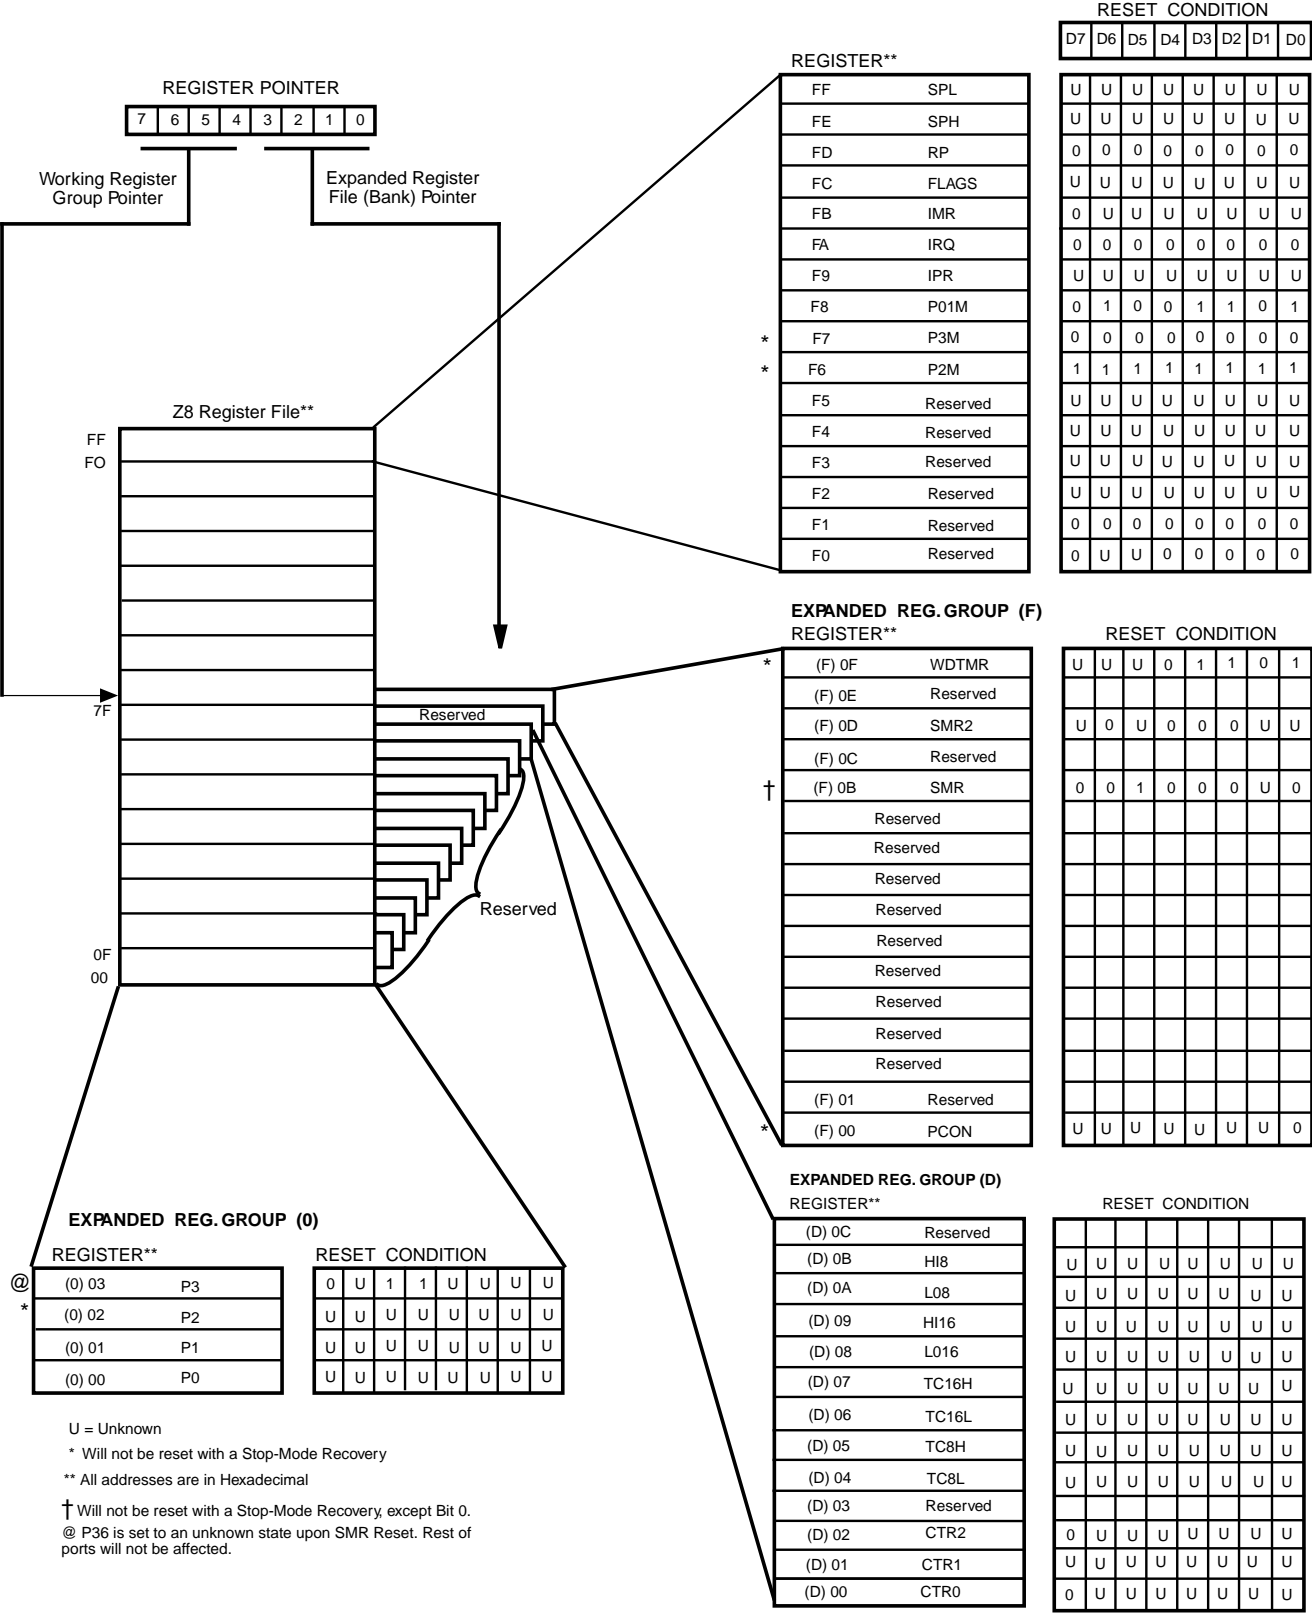

Figure 14. Expanded Register File Architecture
**Expanded Register File.** The register file has been expanded to allow for additional system control registers, and for mapping of additional peripheral devices into the register address area. The Z8 register address space R0 through R15 has been implemented as 16 banks of 16 registers per bank. These register groups are known as the ERF (Expanded Register File). Bits 7-4 of register RP select the working register group. Bits 3-0 of register RP select the expanded register file bank. Note that expanded register bank is also referred to as expanded register group (Figure14).